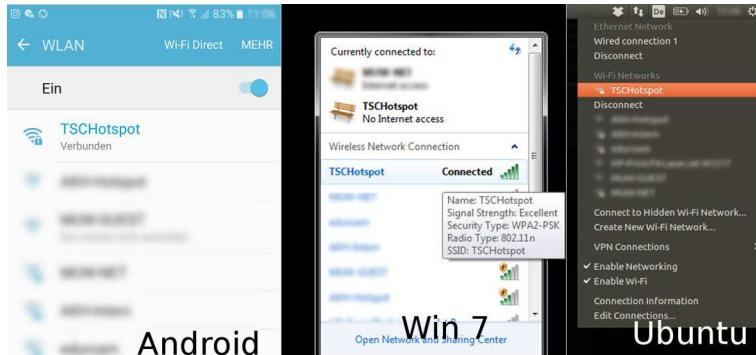

Figure 24: Various views of the autonomous TSCHotspot WLAN access point spawn by TSC.
- Select **TSCHotspot** as your WLAN access point (see also Sect. 5 and Fig. 24).
In addition, TSC also supports LX200 operation via WLAN – remember that TSC can open its own access point, and external devices such as laptops and tablets can connect to it. The default name for this autonomous WLAN access point is TSCHotspot. Fig 24 shows the looks of accessing TSC.